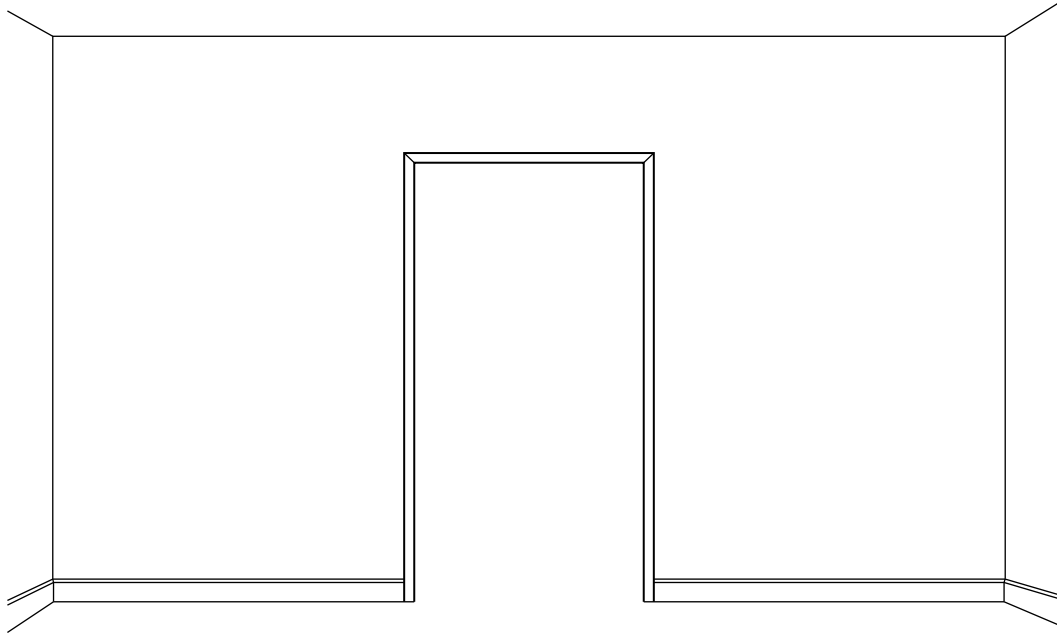

Fig. 1
Fig. 1 shows an elevation of an internal non-load bearing partition wall.
(a) Give **four** justified design requirements for an internal non-load bearing partition wall of the type shown in Fig. 1.
(e) (i) State a **suitable specific material** for the construction of the internal non-load bearing partition wall as shown in Fig. 1.
- (ii) Describe, in detail, the method of constructing the internal non-load bearing partition wall shown in Fig. 1. Give details of how to make sure it is stable. Use annotated diagrams to support your answer.